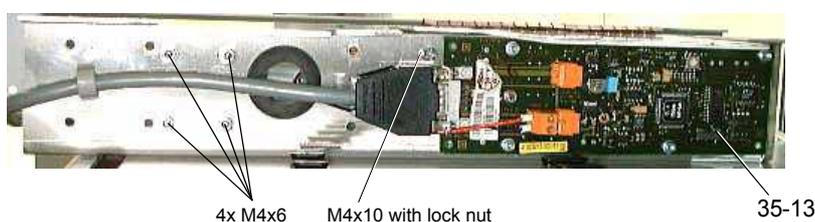

Figure 6-39 Fast wash pump assembly, rear side view
The fast wash pump is installed below the worktable, on the left side behind the worktable cover (Figure 6-39, item 11).
- 4 Remove the FaWa pump from the fast wash pump assembly (5 screws, refer to figure 6-39, 'Fast wash pump assembly, rear side view').